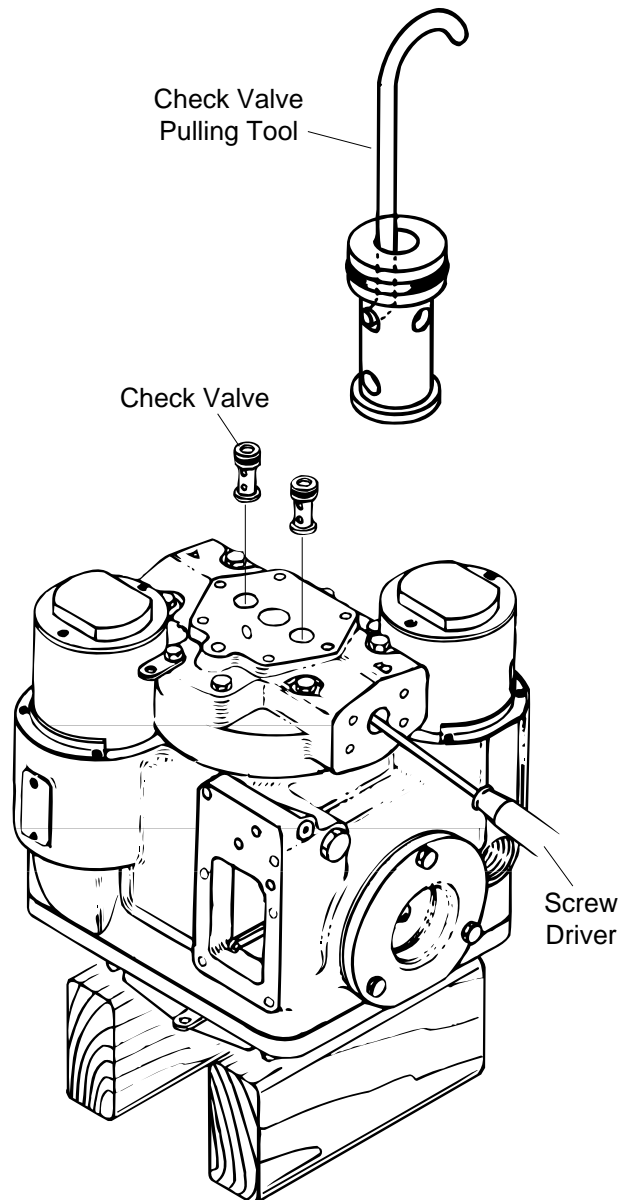

Figure 4
**14** Pull the two check valves from the end cover; Hook the short end of the pulling tool in one of the check valve cross holes, see figure 4.